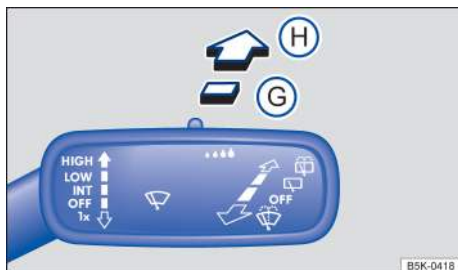

Fig. 81 Operating the rear wiper.
→ fig. 81, → ⑧:
- ⑧ **☞** Intermittent wiping for the rear window. The wiper wipes about every 6 seconds.
- ⑨ **☞** Press the lever forward as far as it will go to activate the rear window washers, then release to stay in intermittent wiping mode (position ⑧). Pull the lever toward the steering wheel to turn the rear wiper off.